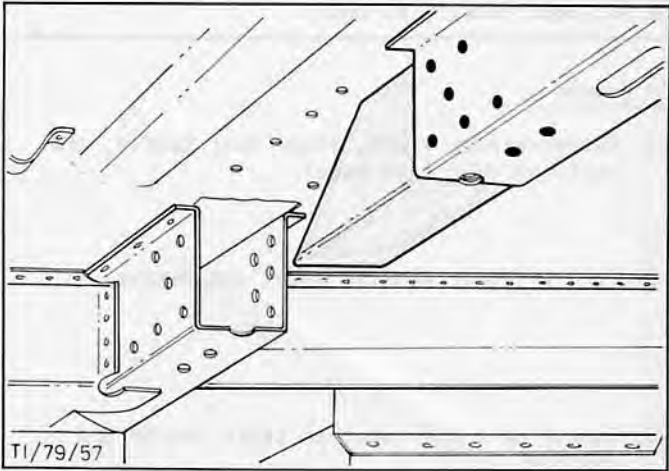

Fig.93. Drill holes in remaining section of side member and locate new section of side member.
14. Drill 14 holes (12 mm dia.) on remaining side member section, Fig.93.
16. Insert side member section with welded-on shoe into remaining side member section of body, Fig.93.